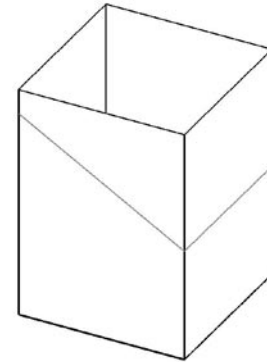

FIGURE 18
1. Mark a line on the side of the Cathedral Ceiling Support Box to correspond to the line of the roof pitch. Allow for the Support Box to protrude below the finished ceiling a minimum of 2 in (5 cm). See Figure 18.